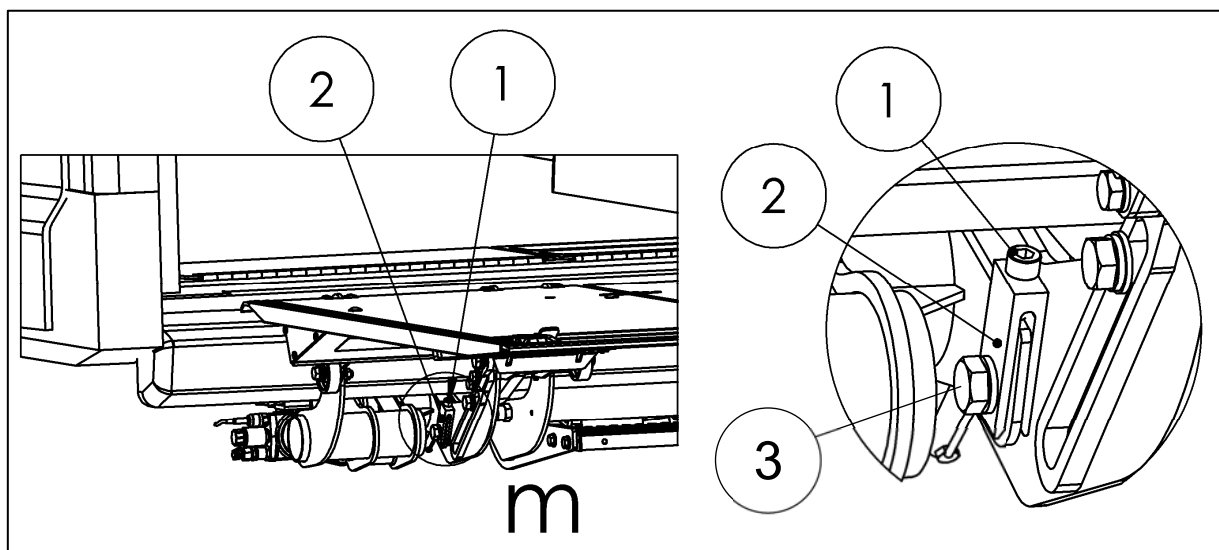

Fig. 69
- To align the platform parallel to the vehicle floor, adjust the lifting gear using the left-hand adjustment fork (adjustment screw accessible from above) (see Fig. 69).